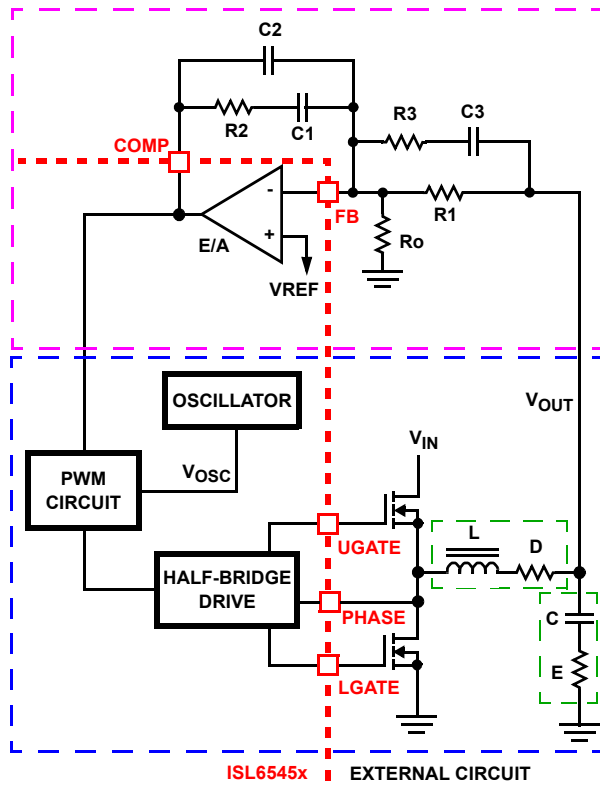

FIGURE 9. VOLTAGE-MODE BUCK CONVERTER COMPENSATION DESIGN
This section highlights the design consideration for a voltage-mode controller requiring external compensation. To address a broad range of applications, a type-3 feedback network is recommended, as shown in the top part of Figure 9.
Figure 9 also highlights the voltage-mode control loop for a synchronous-rectified buck converter, applicable to the ISL6545x circuit. The output voltage (V_{OUT}) is regulated to the reference voltage, V_{REF} . The error amplifier output (COMP pin voltage) is compared with the oscillator (OSC) modified sawtooth wave to provide a pulse-width modulated wave with an amplitude of V_{IN} at the PHASE node. The PWM wave is smoothed by the output filter (L and C). The output filter capacitor bank's equivalent series resistance is represented by the series resistor E.
The compensation network consists of the error amplifier (internal to the ISL6545x) and the external $R1$ - $R3$, $C1$ - $C3$ components. The goal of the compensation network is to provide a closed loop transfer function with high 0dB crossing frequency (F_0 ; typically 0.1 to 0.3 of F_{SW}) and adequate phase margin (better than 45°). Phase margin is the difference between the closed loop phase at F_{0dB} and 180° . The equations that follow relate the compensation network's poles, zeros and gain to the components ($R1$, $R2$, $R3$, $C1$, $C2$, and $C3$) in Figure 9. Use the following guidelines for locating the poles and zeros of the compensation network:
1. Select a value for $R1$ (1kΩ to 5kΩ, typically). Calculate value for $R2$ for desired converter bandwidth (F_0). If setting the output voltage via an offset resistor connected to the FB pin, R_o in Figure 9, the design procedure can be followed as presented.